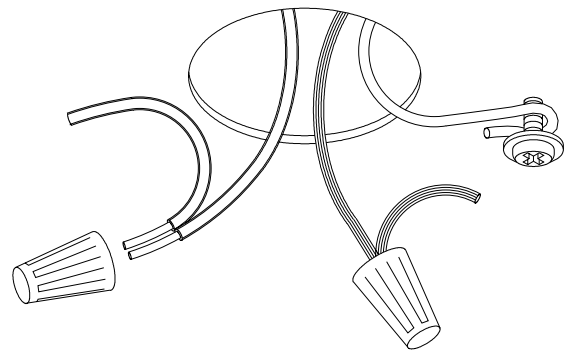

Fig. 9
**6. With the power off, connect the copper ground wire** from the junction box to the fixture by wrapping it under the head of the green ground screw and tightening the screw. (If house wiring includes no ground wire consult your local electrical code for approved methods). **See Figure 9.**
**7. Use wirenuts to connect** the black fixture wire(s) to the black power supply wire and white fixture wire(s) to white power supply wire. **See Figure 9.**